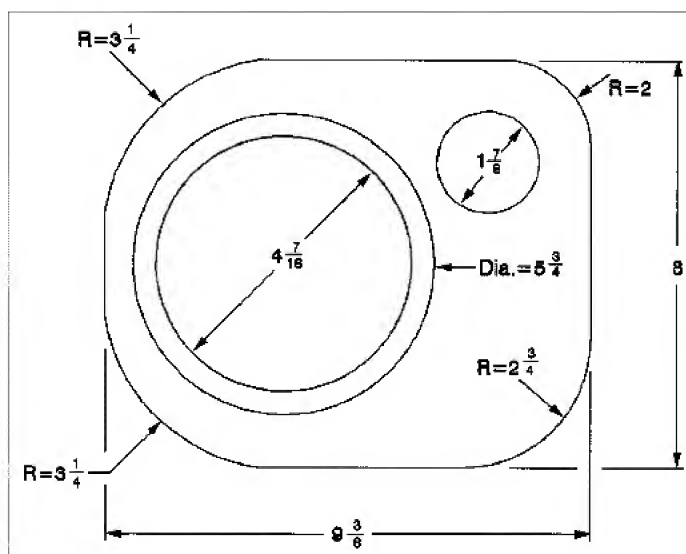

Figure 1-5 Mounting plate for two-way component system.
2. To get predictable frequency response results, maintain spacing between the woofer and tweeter as close as possible to Figure 1-5.
2. Assuming we've done all the prework, we begin by tracing a paper pattern of the door contour which will be transferred to a full-sized drawing of the driver's side as shown in Figure 1-5.